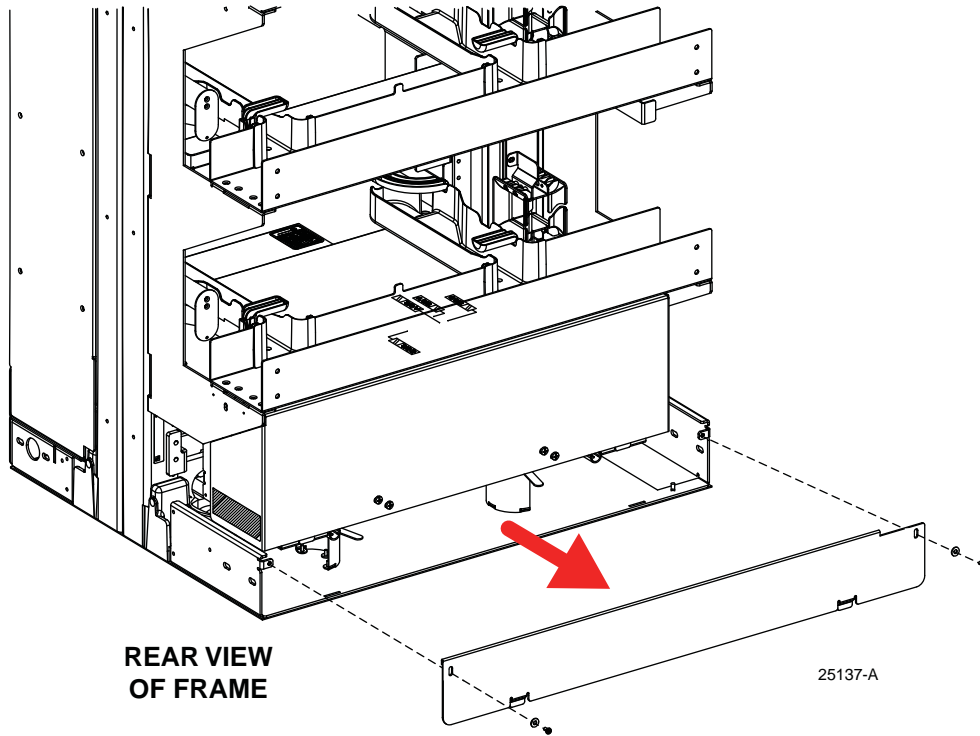

Figure 36. Removing Front Plate from Frame
- a. Remove the splice chassis cover (if present) from the bottom rear of the NG4access frame, as shown in Figure 36. To do this, remove the two #8 pan head screws and two star washers securing the cover to the frame. Set aside these items for re-installing the cover later.